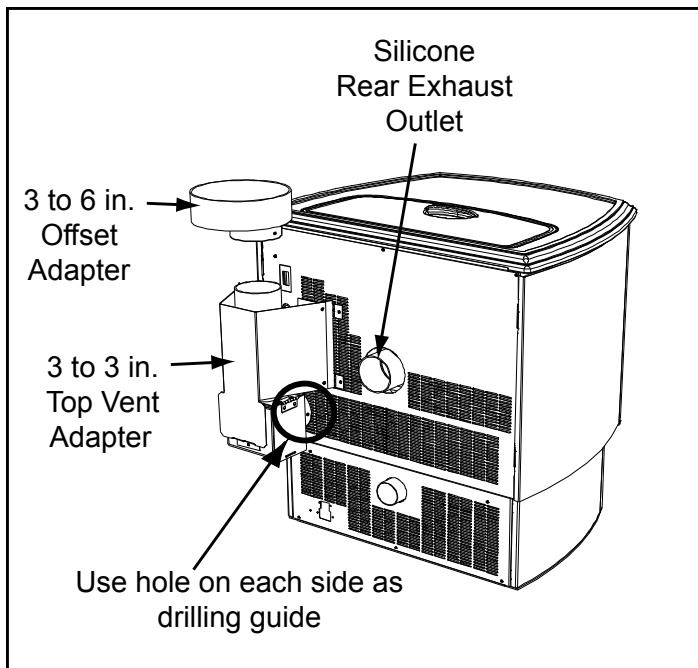

Figure 18.1
1. Put a layer of high temperature silicone on the 3 inch (76mm) exhaust outlet. **Figure 18.1**
2. Slide the top vent adapter onto the rear exhaust outlet and adjust the assembly to a vertical position. **Figure 18.1**
5. Drill 2 holes with #26 drill bit through the rear exhaust outlet using the 2 holes already in the short horizontal pipe in the top vent adapter as a guide. Install the 2 screws. **Figure 18.1**
1. Put a layer of high temperature silicone on the 3 inch (76mm) exhaust outlet. **Figure 18.1.**